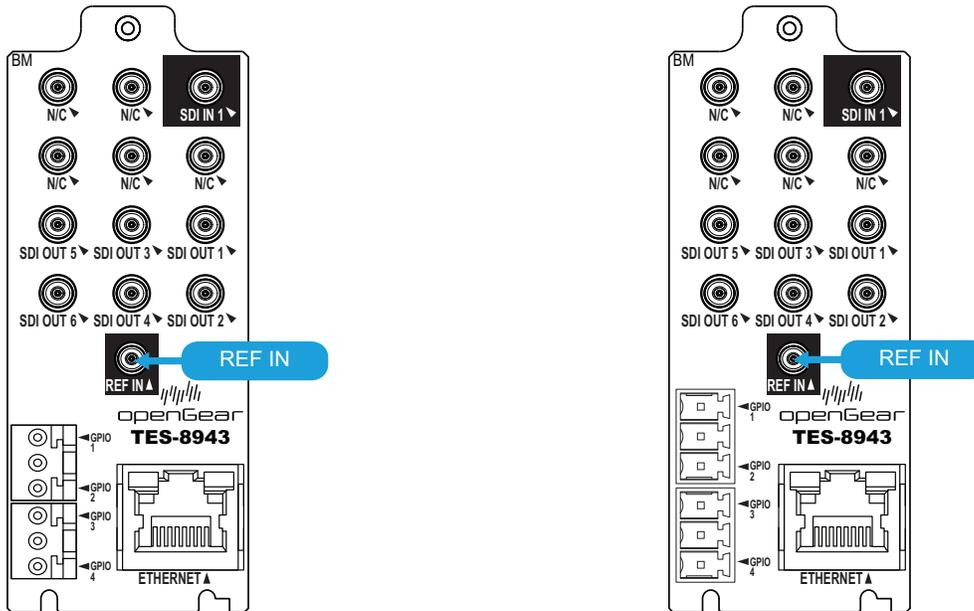
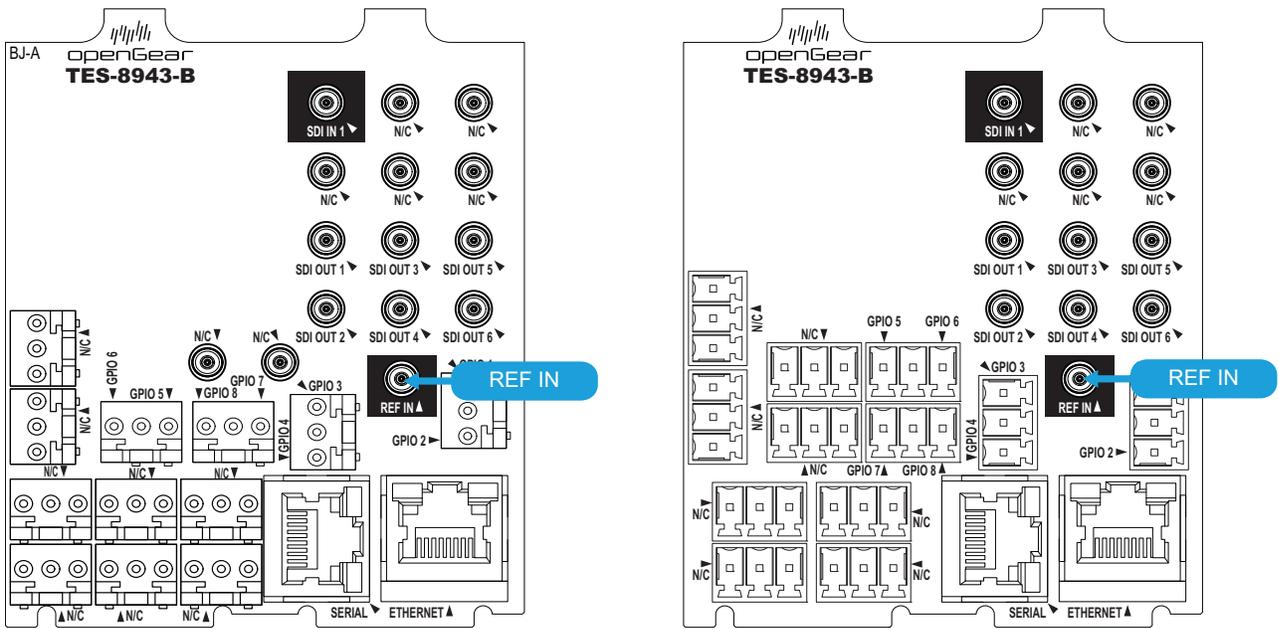

Figure 11 TES-8943 — REF IN
Figure 12 TES-8943-B — REF IN
- Connect the reference signal to the **REF IN** HD-BNC on the TES-8943(-B) rear module. (**Figure 11**, **Figure 12**)